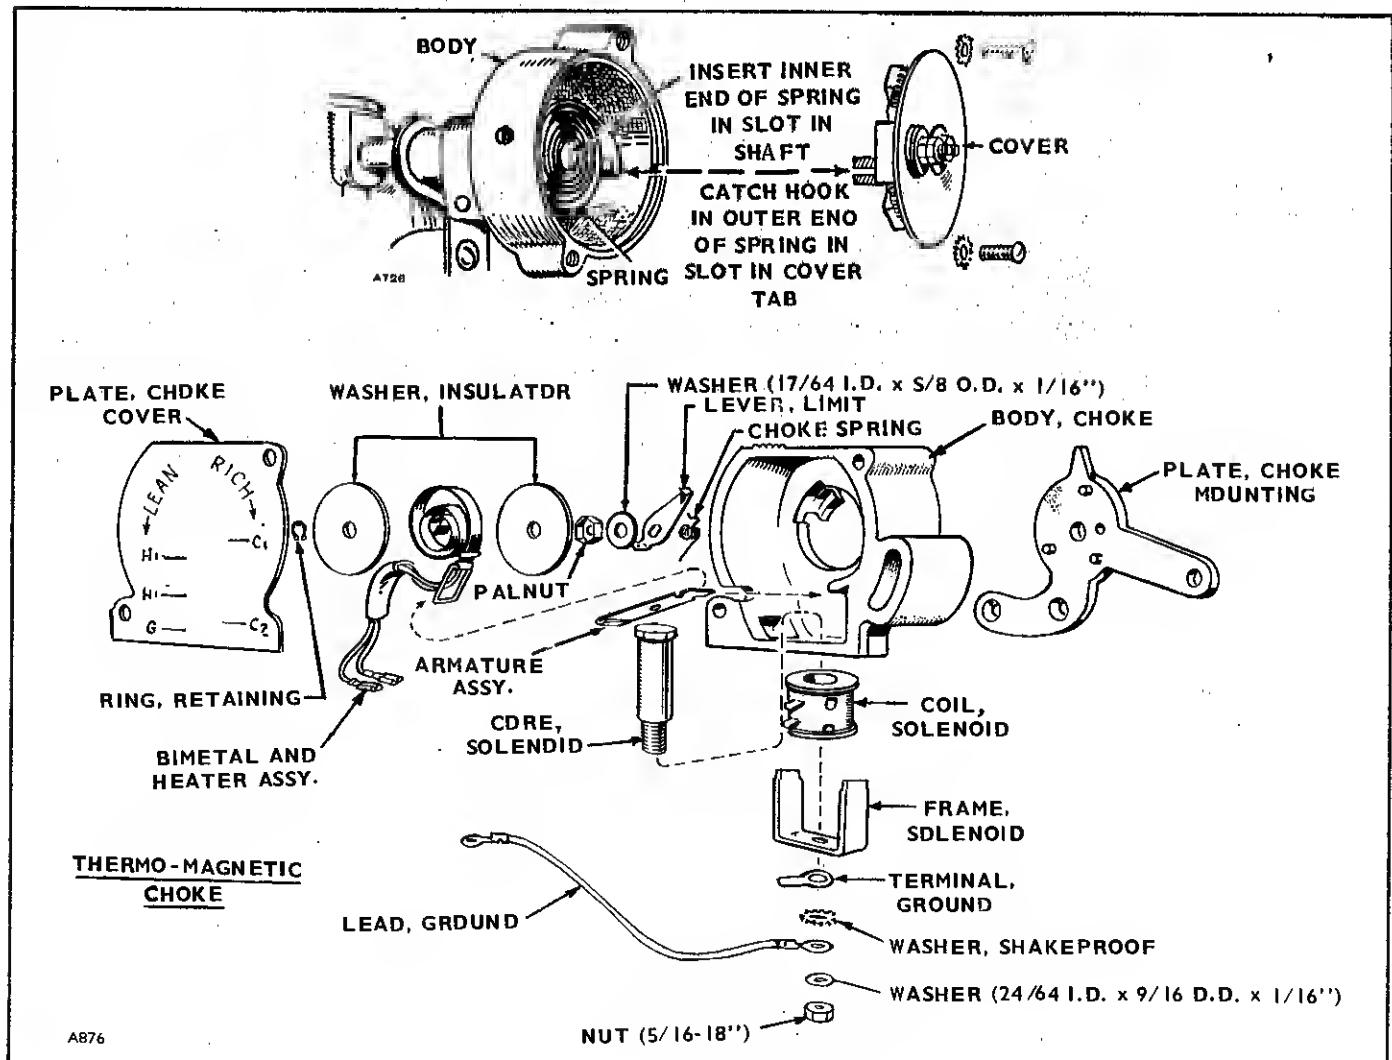

FIGURE 11. EXPLODED VIEW: ELECTRIC CHOKE
**Disassembly and Repair, Electric and Therma-Magnetic Choke:** If the choke does not operate, or will not maintain its adjustment, disassemble it for repair. If it will not close, check for binding, incorrect adjustment, or incorrect assembly of the coil. If it will not open after plant starts, check for heating. The choke should be warm to the touch within a minute or two of plant starting. To disassemble choke refer to Fig. 11.
**Assembly (Fig. 11):** When assembling electric choke be sure the fork in the plate straddles and holds the outer end of the coil and that the spring winds in a clockwise direction from center.